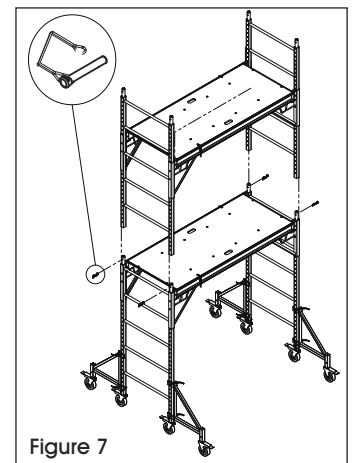

Figure 7
4. Install end frames of upper unit onto end frames of base unit. Secure with four snap pins (D) to secure scaffold units. (See Figure 7)
5. Attach two side braces to upper end frames at desired platform height. Ensure platform is fully seated and level in both side braces. (See Figure 7)